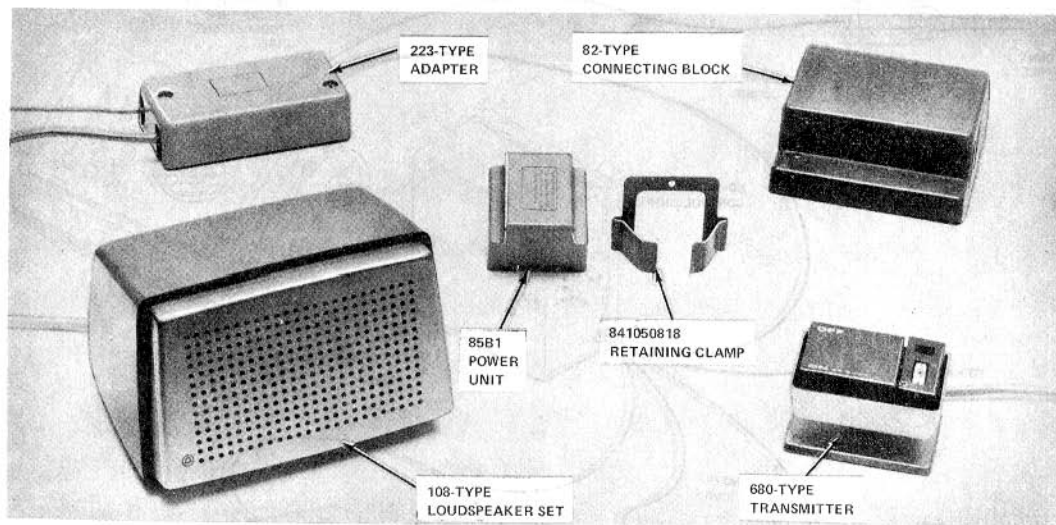

Fig. 3—Components of 4A Speakerphone System
2.03 Components of the 4A speakerphone system are shown in Fig. 3.